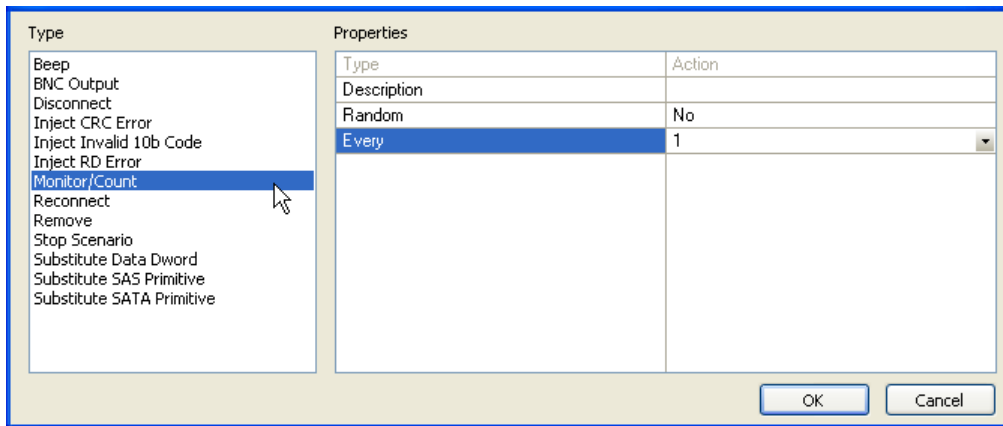

Figure 5.29 Example 5: Action Drop-Down List (For Third Action)
Step 6 The Action Properties dialog box appears. Choose **Monitor/Count** as the third action (Figure 5.29).